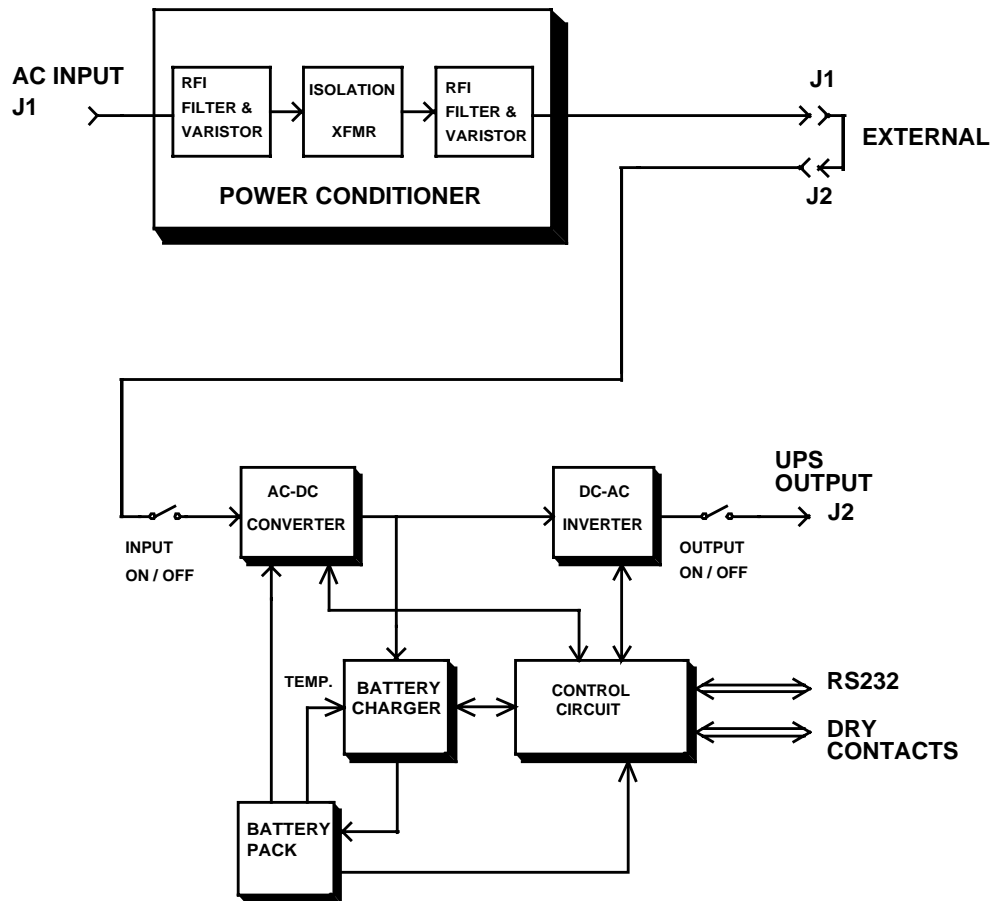
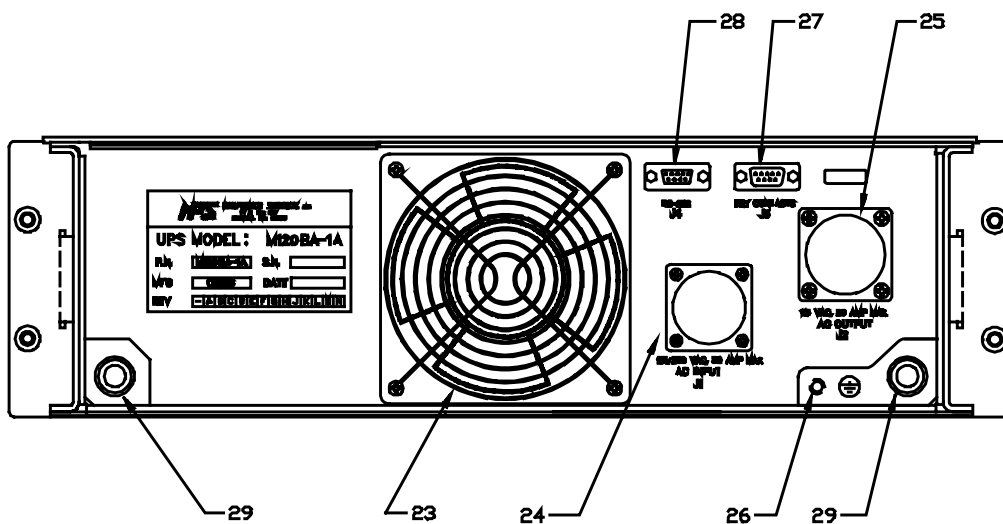

Figure 1 - M120BA-1A Block Diagram
Figure 6 - Rear Panel
The M120BA-1A consists of two main sections: Power Conditioner and UPS (see Fig. 1).
Two circular connectors (J1 and J2) are provided on the rear panel of the UPS (see Figure 6). J1 is the input connector to the Power Conditioner section of the unit. J2 carries the output of the Power Conditioner and both input and output of the UPS section. (Please refer to Fig. 1 for the definitions of the Power Conditioner and the UPS sections.)
5. Rear Panel Description (See Figure 6)